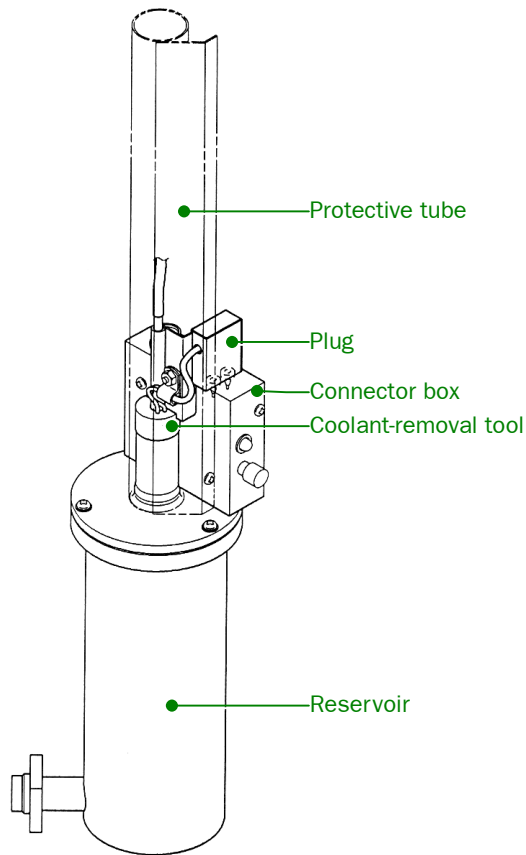

Fig. 5.43 Coolant evaporator(Mounted on the anti-contamination device)
- a. Slide the protective tube as far in as it will go (Fig.5.43).
- c. Insert the heater assembly into the coolant tank and insert the heater plug into the HTR socket on the connector box (See Fig. 5.43).